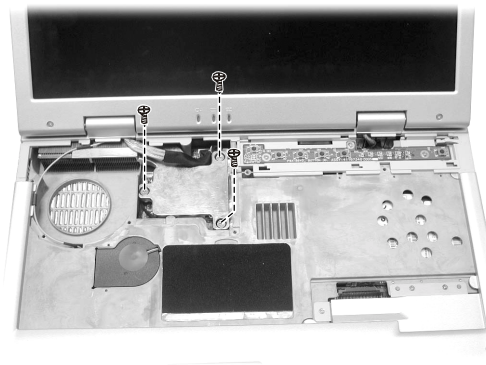

Figure 2-8 Remove the fan's power cord
4. Remove three screws fastening the heatsink. (Figure 2-8)